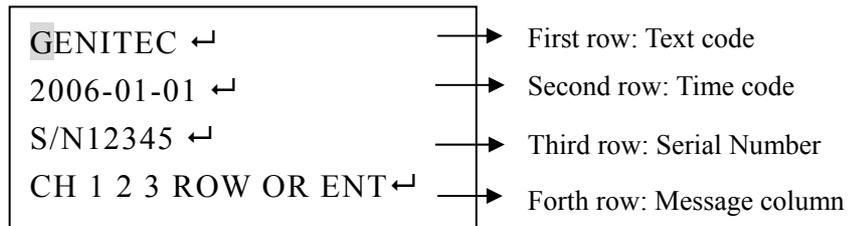
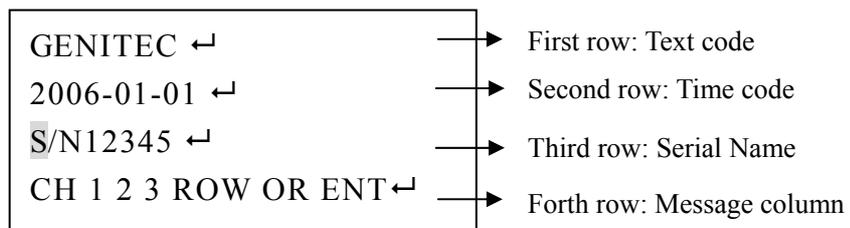

Figure 17
Figure 19
4. Press the button **1** , CAUSER will skip to the front of first row. The position can do data editing(Please refer to figure 17).Please press the button **2** , CAUSER will skip to the front of second row, the position can do data editing(Please refer to 18). Press the button **3** , CAUSER will skip to the front of the first row, you can do data edit on the position.(Please refer to figure 19).